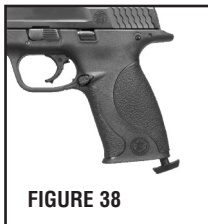

FIGURE 38
- Remove the frame tool from the bottom of the grip by rotating it 1/4 turn (either direction) and pulling it down - out of the grip frame (FIGURE 38).